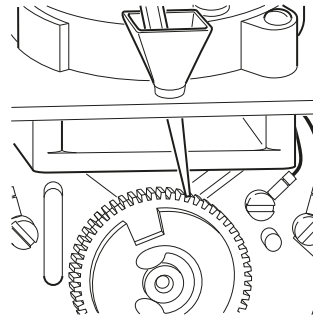

Figure-39 Auxiliary Switch Adjustment (Rear View with Top and Back Covers of Actuator Removed).
3. The access hole for the auxiliary switch adjustment is located in top plate of the actuator directly ahead of the terminal block in the back of the actuator. Refer to Figure-39. Actuators manufactured after 1976 have plastic funnel shield inserted in the access hole.